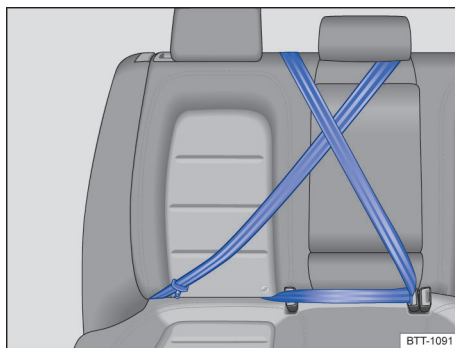

Fig. 39 Keep unused safety belts away from children in child restraints.
You must take special precautions when installing a LATCH/UAS child restraint behind the front passenger or driver seats. Always route the center safety belt and the unused safety belt for the seating position where the child restraint is being installed securely out of the child's reach. Securing the safety belts will help prevent a child from playing with an unused safety belt and becoming entangled with it → fig. 39.
- Route the safety belt around the head restraint for the center seating position → fig. 39.
- Buckle the safety belt → fig. 39.
You must take special precautions when installing a child restraint with the vehicle safety belt or with LATCH/UAS lower universal anchorages behind the front passenger seat or behind the driver seat. Always route the center safety belt and the unused safety belt for the seating position where the child restraint is being installed securely out of the child's reach. Securing the safety belts will help prevent a child from playing with an unused safety belt and becoming entangled with it → page 71, Using a child restraint on the rear seat, → fig. 39.
front passenger seat or behind the driver seat. Always route the center safety belt and the unused safety belt for the seating position where the child restraint is being installed securely out of the child's reach. Securing the safety belts will help prevent a child from playing with an unused safety belt and becoming entangled with it → page 71, *Using a child restraint on the rear seat*, → fig. 39.